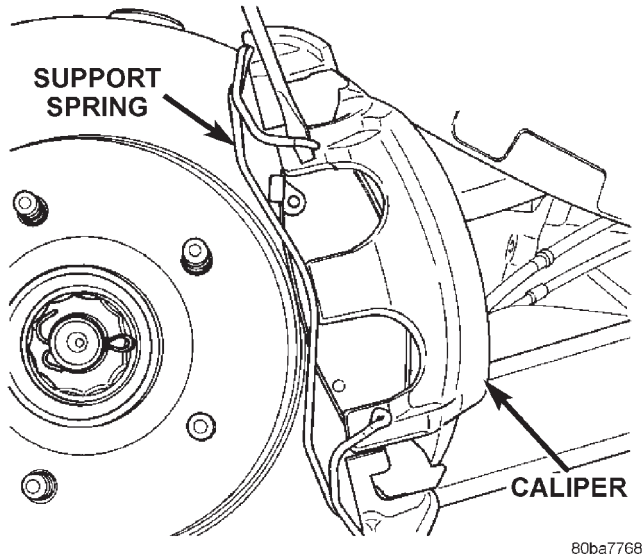

Fig. 24 Caliper Support Spring
- (5) Remove brake hose banjo bolt and gasket washers.
- (6) Remove the caliper support spring by prying the spring out of the caliper (Fig. 24).